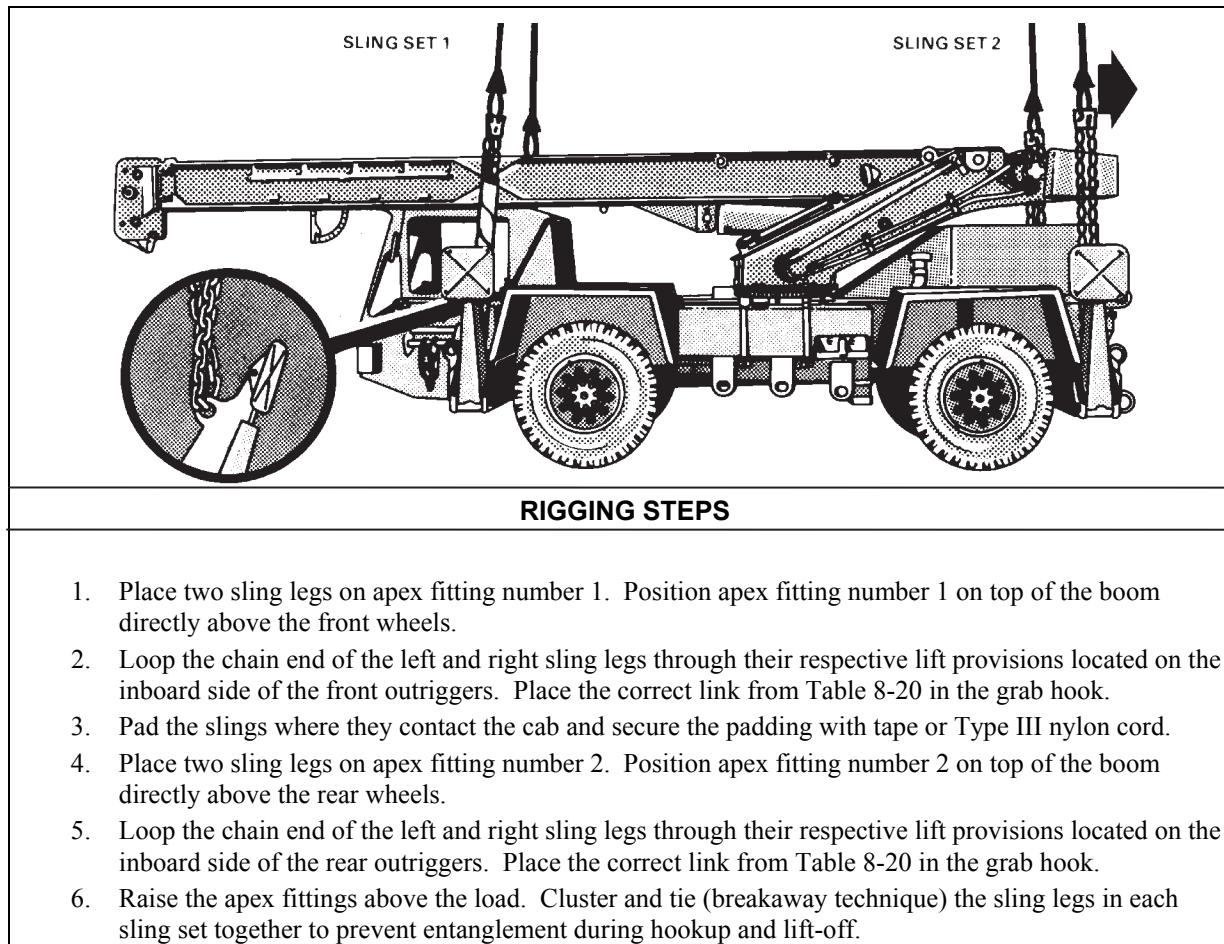

Figure 8-20. LRT-110, 7 1/2-Ton Crane
- **Rigging.** Rig the load according to the steps in Figure 8-20.